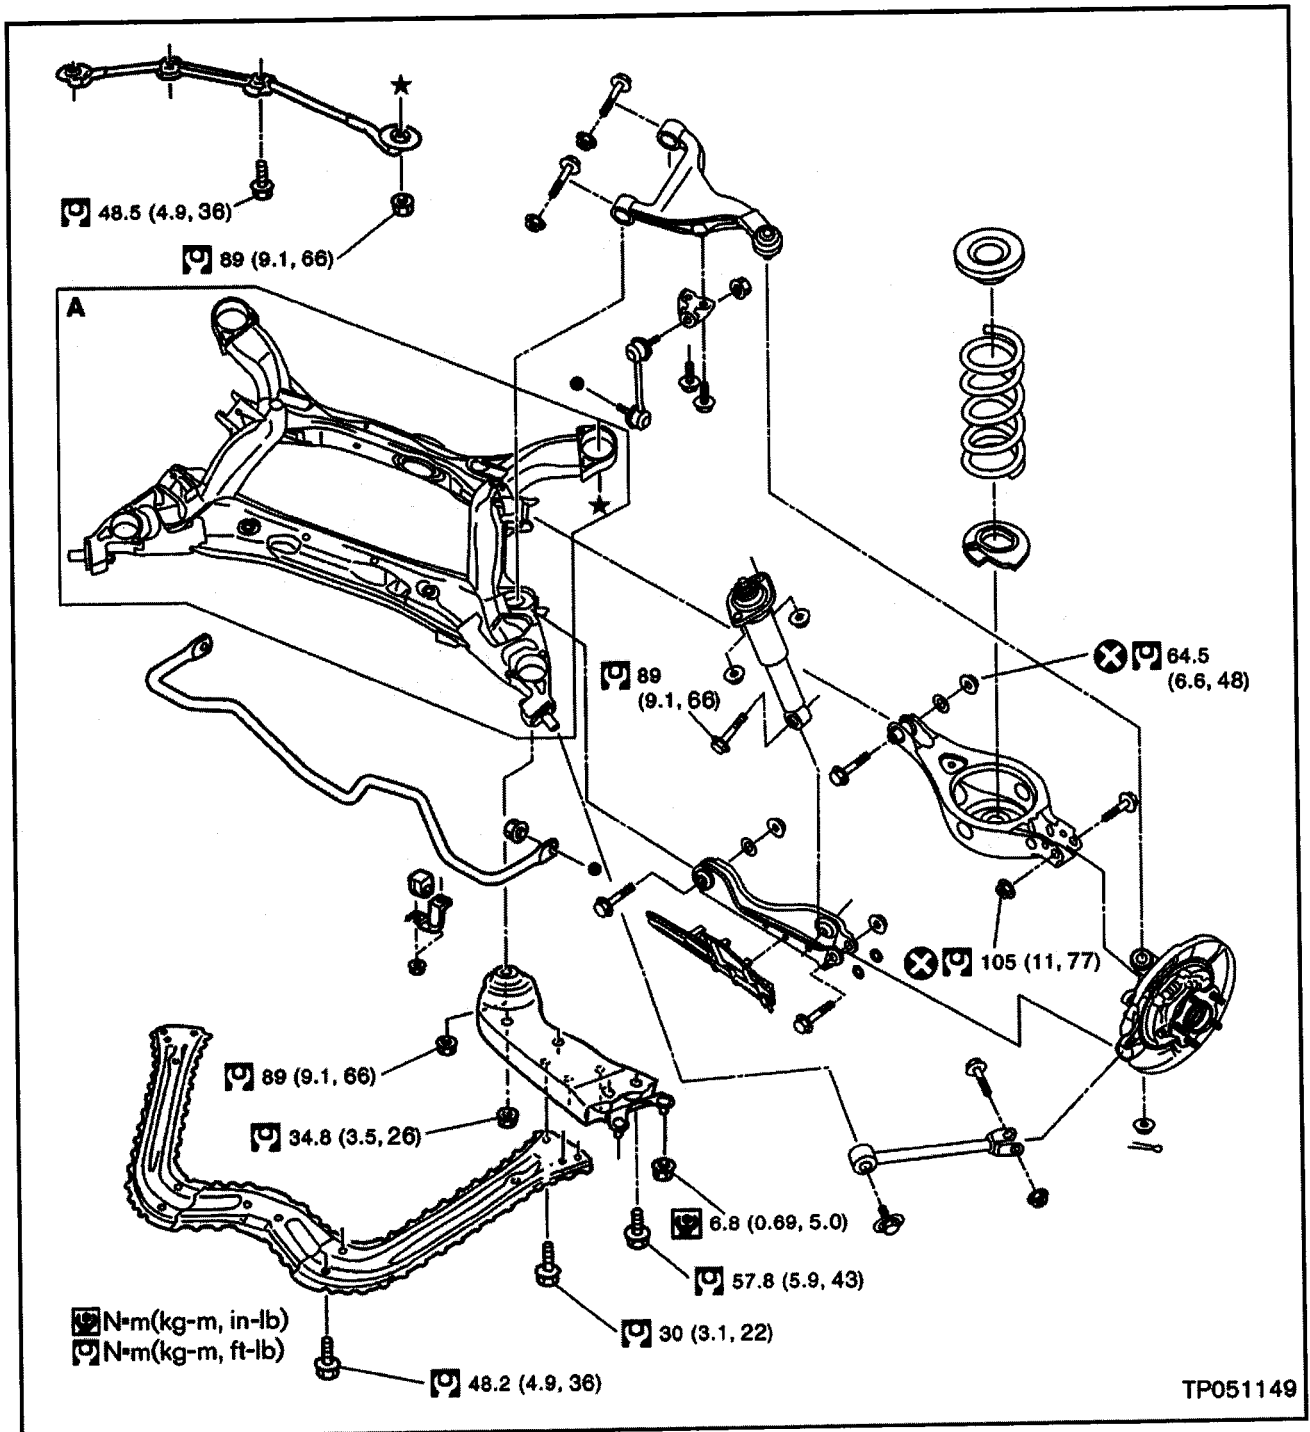

Figure 39
- All suspension fasteners are tightened to the proper torque specification (see Figure 39).